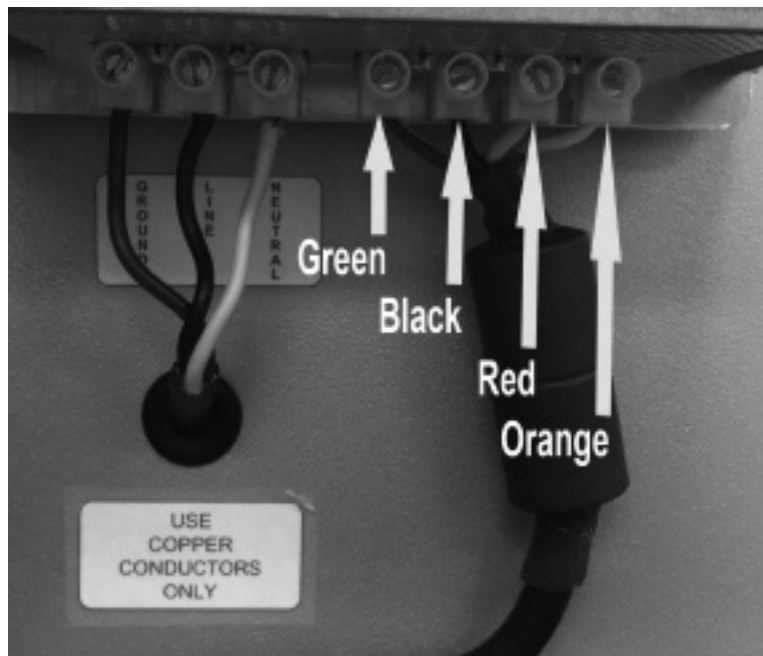

Figure 15 – Cord Reel Wiring Termination
7. Reconnect the cord reel wiring to the terminal block per Figure 15.
6. Disconnect the cord reel wiring from the terminal block (see Figure 15, page 14).
9. Reconnect the cord reel wiring to the terminal block per Figure 15 on page 14.